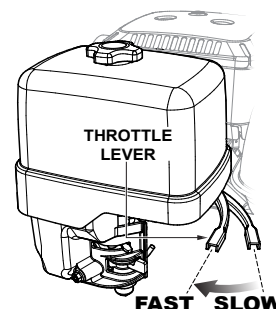

Figure 10. Throttle Lever
3. Move the throttle lever (Figure 10) away from the slow position, about 1/3 of the way toward the fast position.